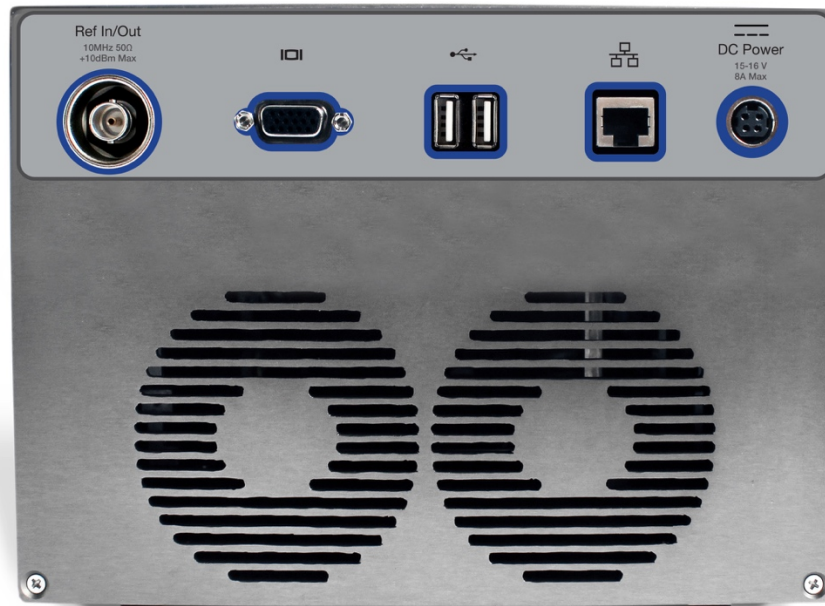

Figure 2.1-2 Left and Right Sides of the R8600
4. Remove battery from separate box, and install at door on lower left side of unit (see Figure 2.1-2).